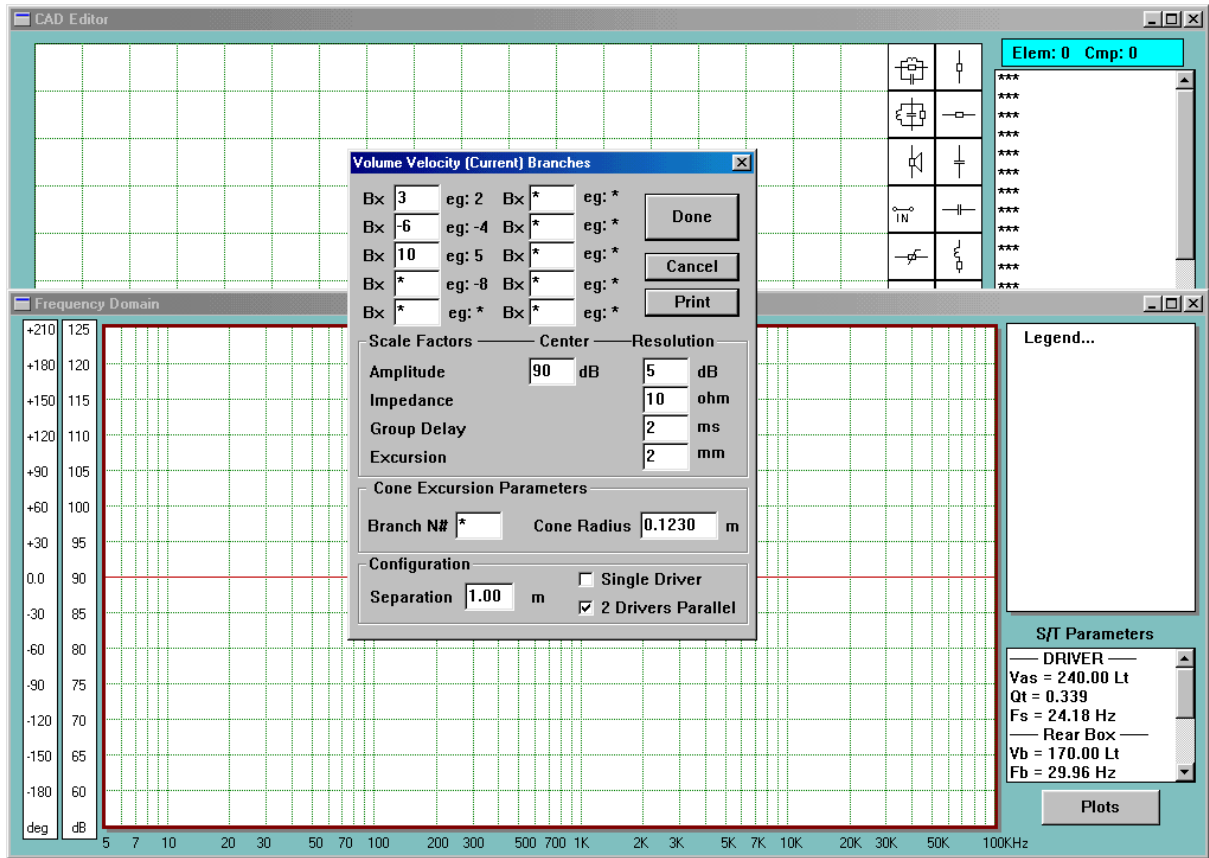

Fig 6.4 Acoustic impedance circuit control box
1. Fig 6.4 - shows correctly edited dialogue box.